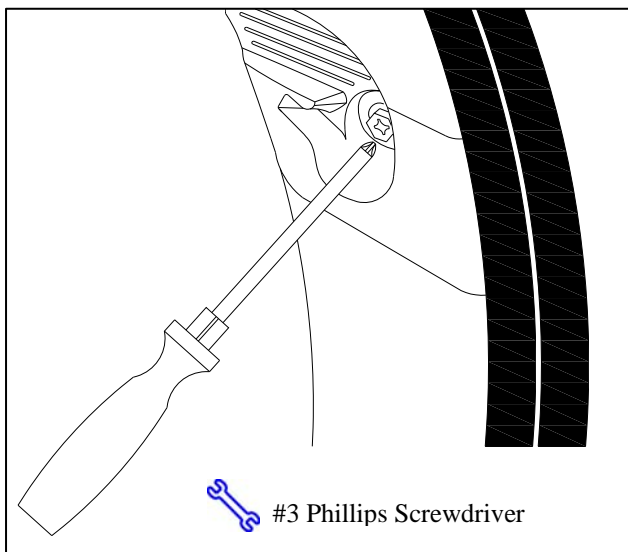

Fig. 1-2
- (b) Remove screw using a #3 Phillips screwdriver as shown. (Fig. 1-2)